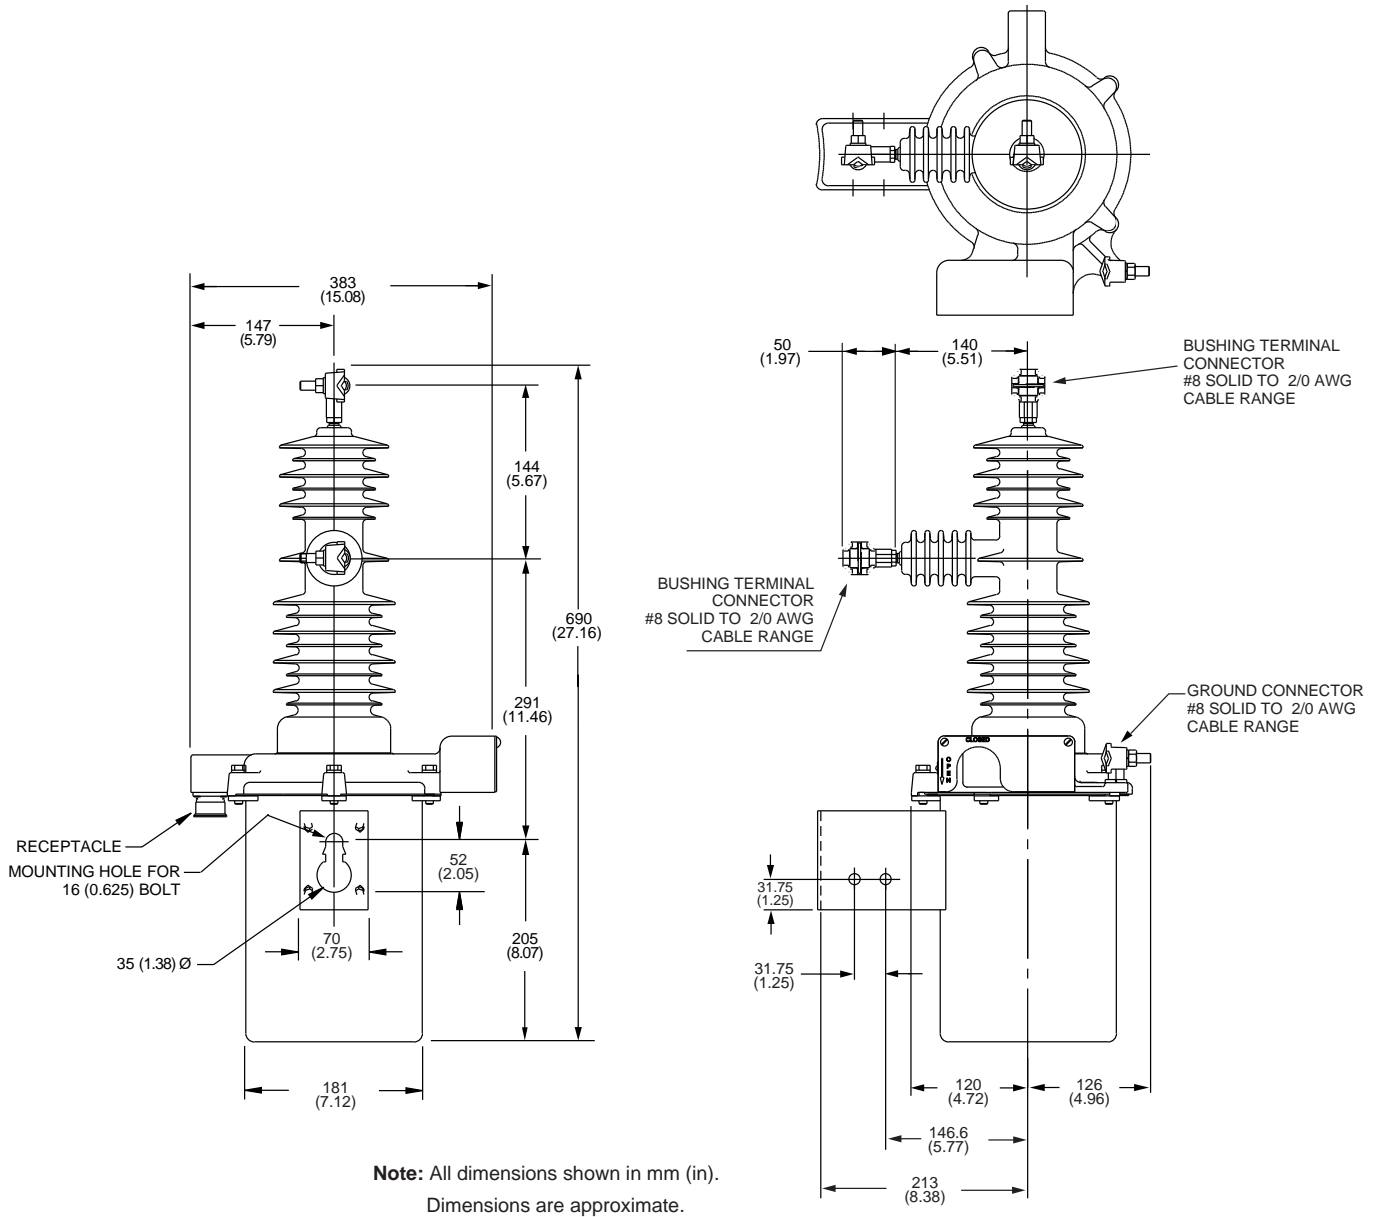

Figure 2.
- 1. Ground the switch.** Make the ground connection to the ground connector located on the switch as shown in Figure 2.